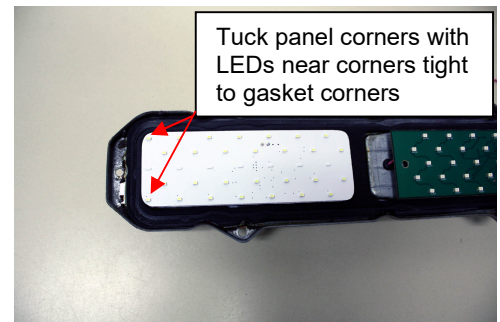

Figure 4
- 4.2. Remove the cover tape from the mounting foam at each corner. Align the LED panel corners that have LED lights close to the corners with the outer edge corners of gasket on housing. (See Figure 4) Center panel vertically between gasket and press into place.